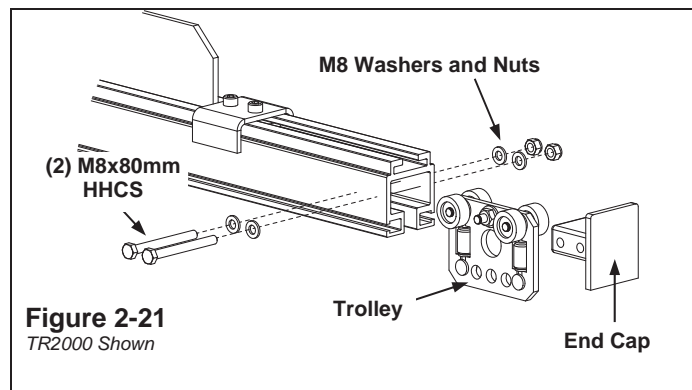

Figure 2-21
- Step 1. Remove (2) M8x80mm HHCS bolts, washers, nuts and lanyard from end cap. Remove end cap. See Figure 2-21.
- Step 3. Install end cap and tighten M8x80mm HHCS bolts, washers, and nuts. **Tighten until bolt(s) are snug + ¼ turn.** Do not over tighten. See Figure 2-21.